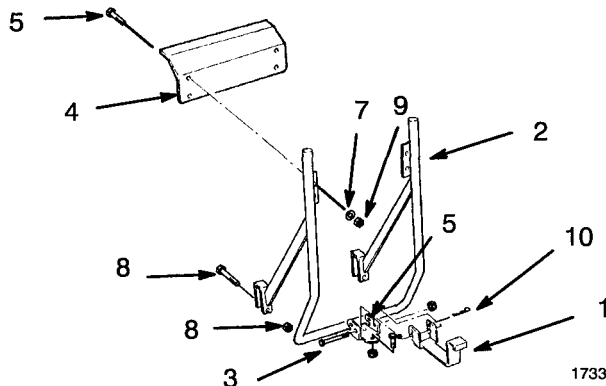

Figure 11
20. Assemble lower canister support into bagger mount with 1/2-13 x 4 in. bolt and lock nut (Fig. 11).
21. Assemble the heat shield to the bagger mount with (4) 5/16-18 x 5/8 in. bolts, flat washers and lock nuts (Fig. 11).
22. Install the bagger mount to the frame of tractor using (1) 1/2-13 x 1 in. bolt and lock nut through the rear hitch, and (2) 3/8-16 x 2-1/4 in. bolts and lock nuts at frame cross member (Fig. 11).
23. Lock the lower canister support in storage or operating position with the hairpin cotter (Fig. 11).